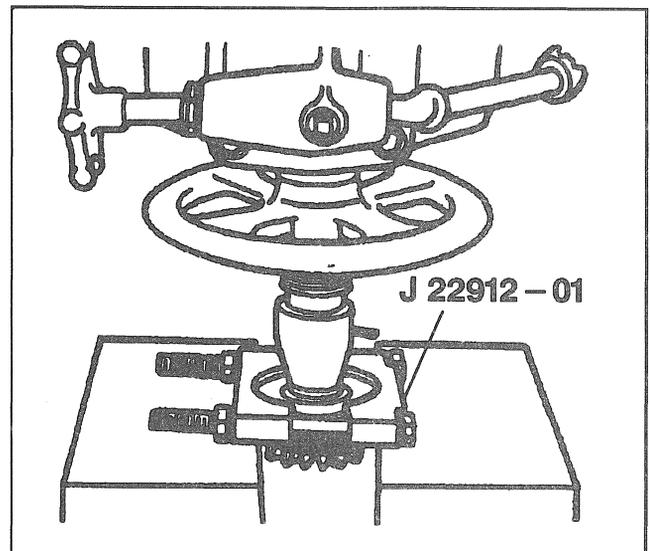

Figure 4—Removing the Thrust Sleeve
- Measure and record the overall length of the gear assembly from the front of the gear to the back of the side thrust sleeve (14) including the side gear thrust washer(13).
1. Guide clips (20).
2. Side thrust sleeve (14) using J 22912-01.
- Press the sleeve from the side gear (Figure 4).
3. Clutch plates (12).
4. Wave washer (15).
5. Cam plate (16).
6. Side cam gear (21).